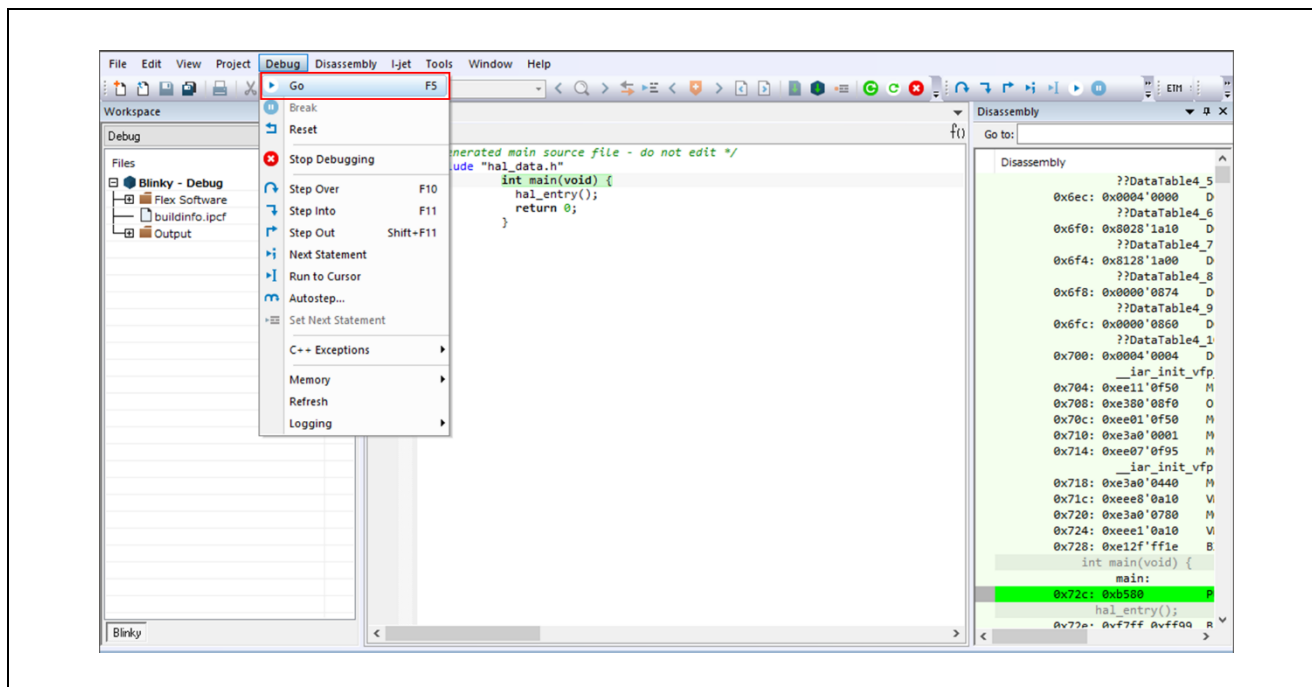

Figure 77 : Go Button
5. Run the program of primary project as shown in Figure 77 to copy the binaries of the secondary and subsequent projects to the internal RAM in the primary project. After the primary project reaches **hal\_entry** in **main.c**, another core is executed. If the LEDs are blinking, proceed to the next step.